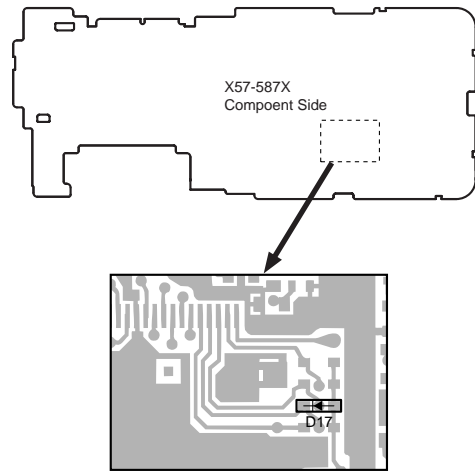

Fig. 3
Remove D17 from the TX-RX unit (Figure 3) (K, E, (N)E, K2 models only). Hold down the [Side1]+[●] switches and turn the power switch on.